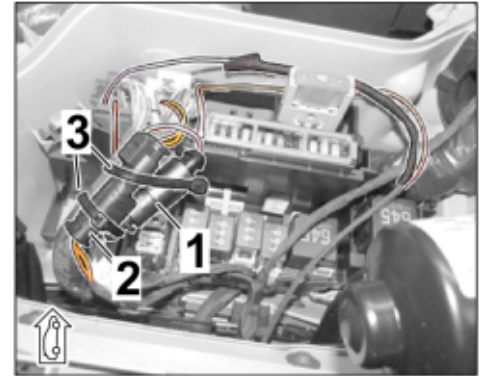

Figure 46
- 3.6 Secure plug connections (CAN lines/terminal 87A) to existing lines/components in the fuse box (E-box) in the cowl panel with tie-wraps without tensile stress and so that no chafing occurs (⇒ Figure 46).